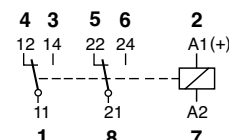

Fig. 1 AC voltage endurance
**Connection diagram****Fig. 1 AC voltage endurance****Fig. 2 DC load limit curve****Dimensions [mm]****Technical approvals, conformities**